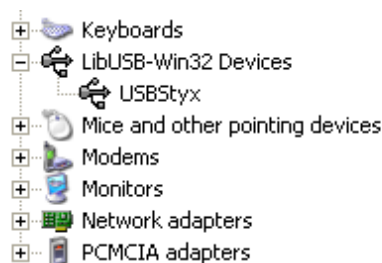

Figure 25. USBStyx Driver Verification Using Device Manager
- Step 6. You can verify the proper installation of the USBStyx driver using the Device Manager. Note that the first driver item, NI-VISA USB Devices, will disappear and a new item, LibUSB-Win32 Devices will appear, as Figure 25 shows.